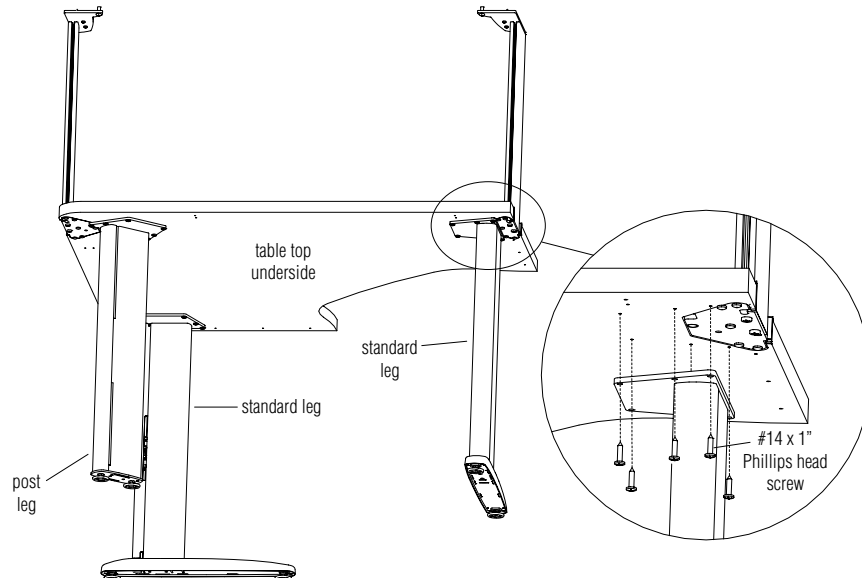

Figure 20
1. Attach the legs to the underside of the table top using six #14 x 1" Phillips head screws per leg (Figure 20).